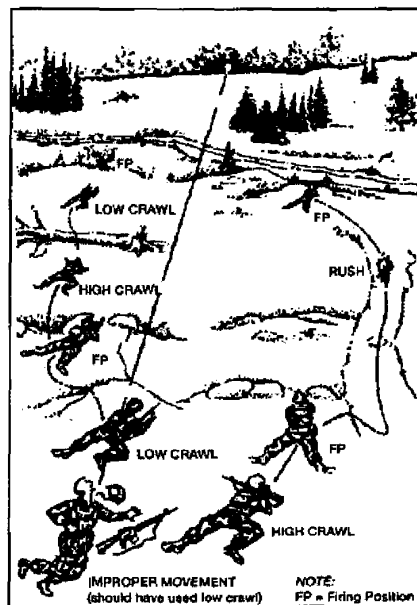

Figure 071-326-0502-1. Individual movement route
1. Select an individual movement route within your team or squad route or axis of advance (figure 071-326-0502-1).